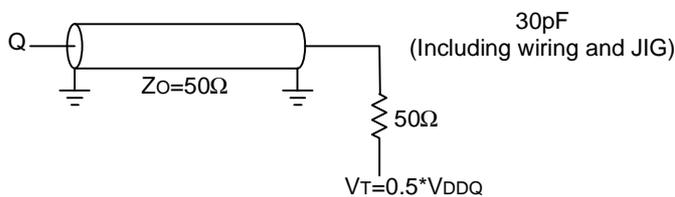

Fig.1 Output load
- Output load Fig.1
Note26.Test conditions is specified with the output loading shown in Fig.1 unless otherwise noted.